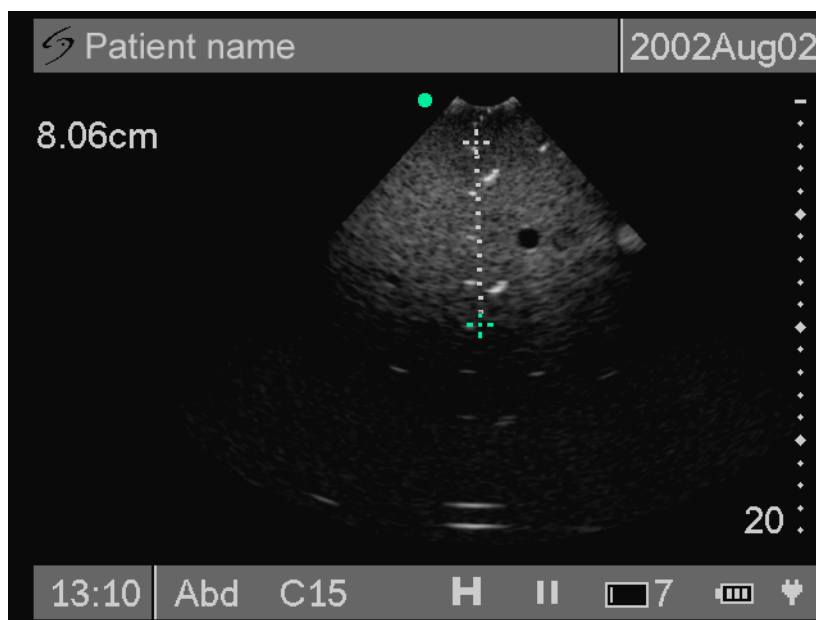

Figure 8.1 Axial Measurement
- 7** Measure the distance, center to center, of two pins that are 5–12 cm apart vertically. (Figure 8.1)